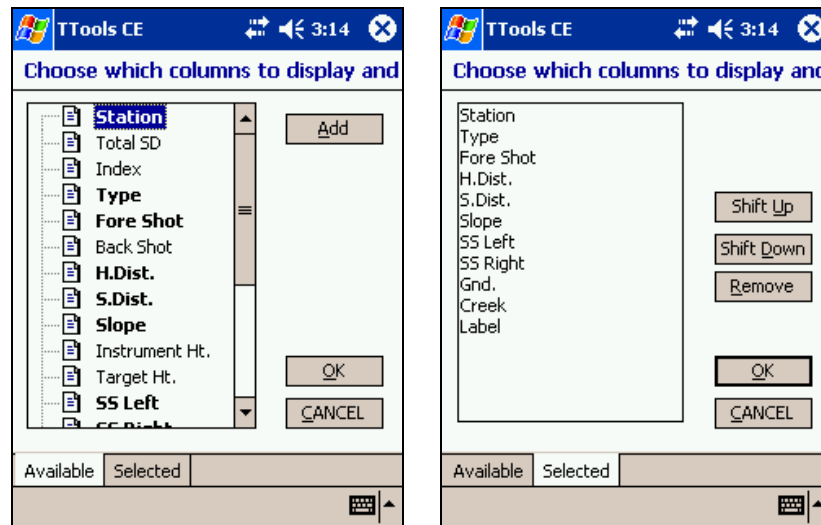

Figure 4.1: Column Setup
1. Select the Edit | Entry Options menu, then select the *Columns* tab. Press the *Add/Remove* button. There are two tabs *Available* and *Selected*. The *Available* tab lists all columns available. The names in bold indicate they have been selected and are displayed on the *Selected* list. See Figure 4.1